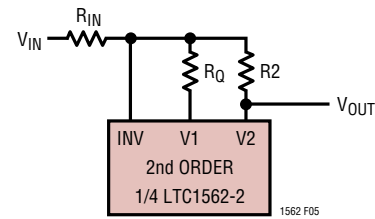
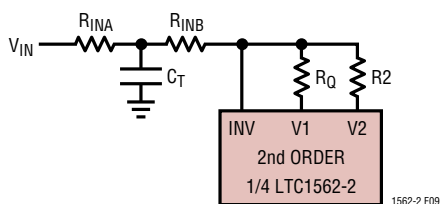

Figure 5. Basic Lowpass Configuration
Figure 9. Lowpass “T” Input Circuit
When  $Z_{IN}$  of Figure 3 is a resistor of value  $R_{IN}$ , a standard 2nd order lowpass transfer function results from  $V_{IN}$  to  $V_2$  (Figure 5):
- Lowpass response (resistor input, V2 output, Figure 5) with  $f_0 < 200\text{kHz}$
The virtual ground INV input in the Operational Filter block provides a means for adding an “extra” lowpass pole to any resistor-input application (such as the basic lowpass, Figure 5, or bandpass, Figure 6a). The resistor that would otherwise form  $Z_{IN}$  is split into two parts and a capacitor to ground added, forming an R-C-R “T” network (Figure 9). This adds an extra, independent real pole at a frequency: